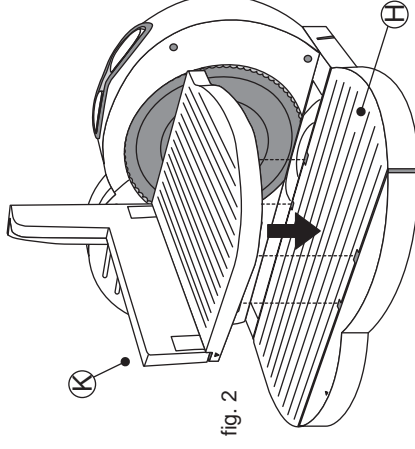

fig. 2
2. Slot the Food Tray (K) into the Platform (H). See fig. 2.